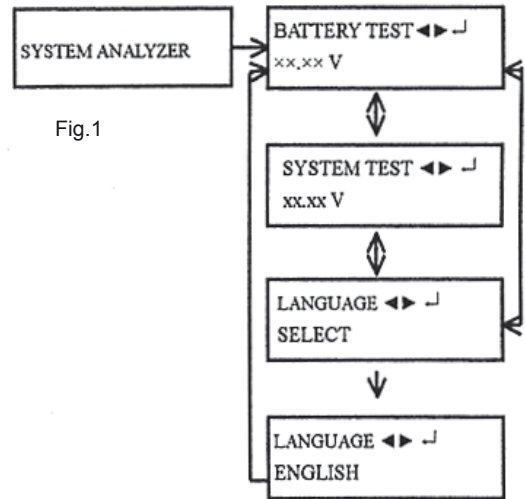

Fig.1
3.2.2 Use the < (forward) and > (backward) buttons to cycle between **System Test**, **Language Select**, and **Battery Test**. (Fig. 1)